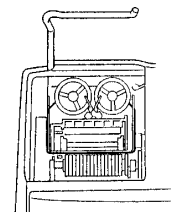

Fig.3
7. Thread the ribbon around the outside of the metal guides. (Fig.3)